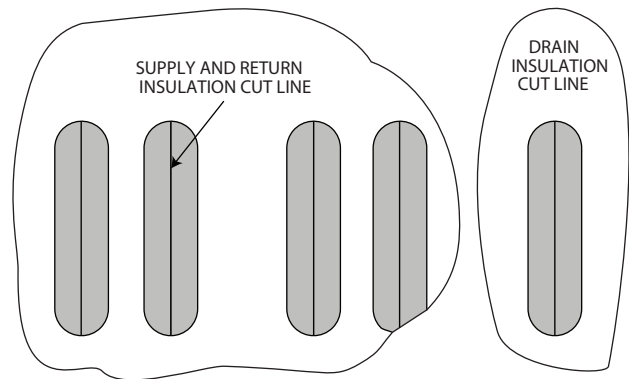

Fig. 19 — 42SU Unit Knockout Insulation Removal
6. Use a sharp retractable knife (see Fig. 19) and vertically cut the insulation down the center of the riser and drain knockouts the full length of the knockout.